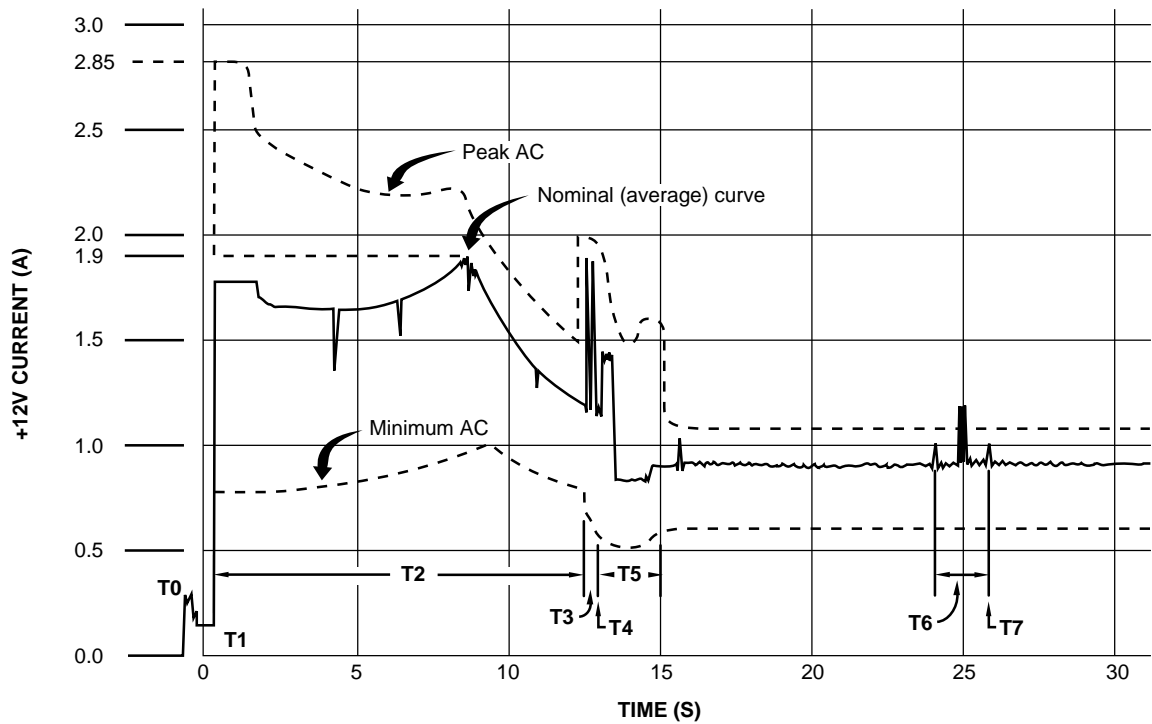

Figure 14. Typical Barracuda 4 drive +12V current profile
- [3] See Figure 14.
Figure 14 identifies the drive's +12V current profile. The current during the various times is as shown.